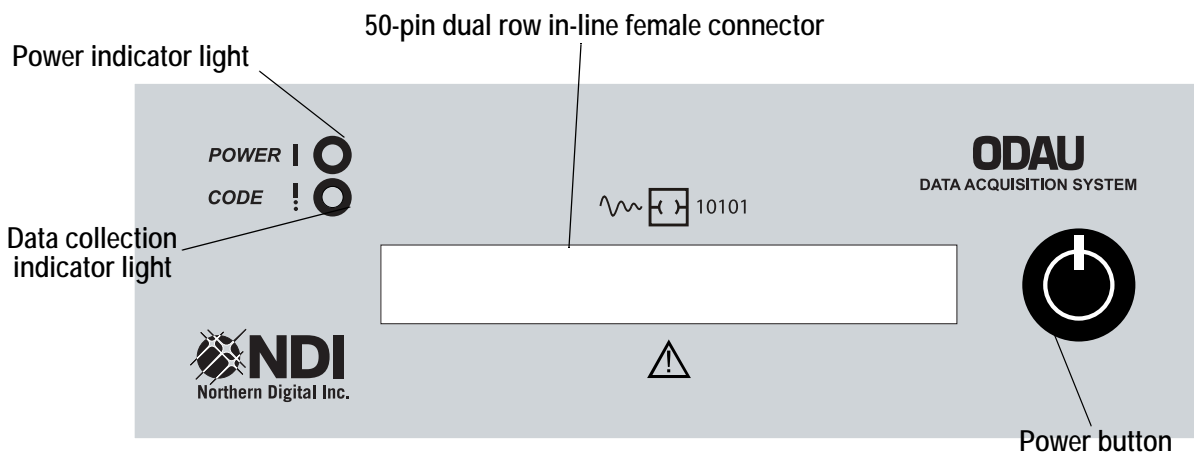

Figure 19-1 ODAU Data Acquisition System - Front Panel
2. Connect the ODAU power cable between the PSU +5V jack connector on the PSU and the power supply port on the ODAU. See Figure 19-1 on page 122.